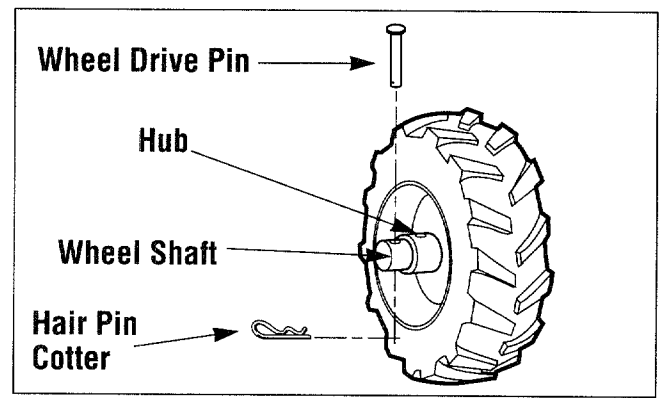

Figure 3-3: FREEWHEEL position.
3. Insert wheel drive pin only through the hole in the wheel shaft. Insert the straight leg of the hair pin cotter into the wheel drive pin as far as it will go. See Figure 3-3.